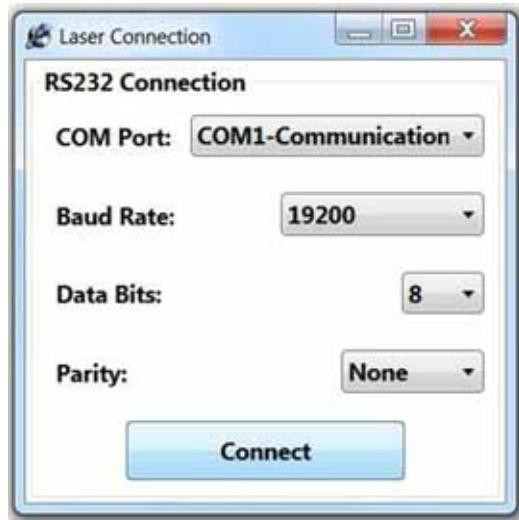

Figure 1.2-13. Connections Menu
1. Open the Service GUI and establish communications through the Connection Menu. See Figure 1.2-13.